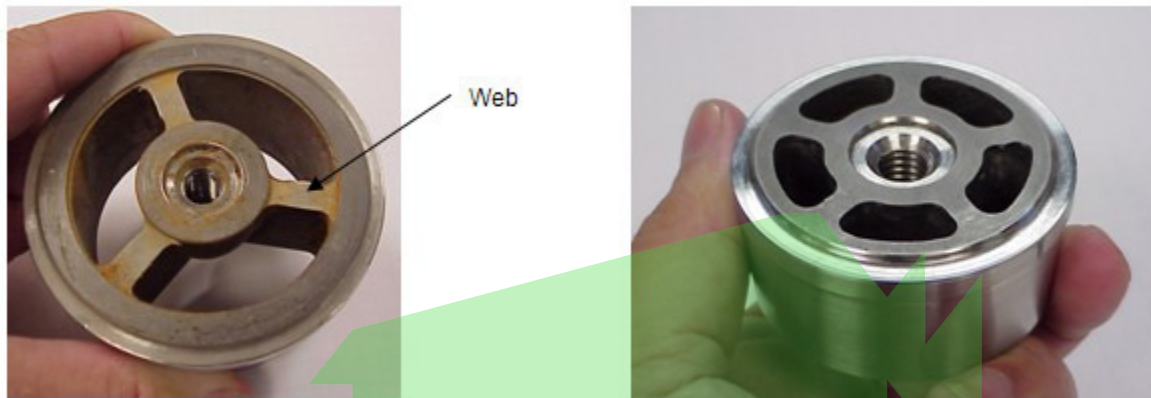

Figure 14: Three vs. Five Web Valve Seat
A significant characteristic of the disc valve is the number of webs in the seat. This feature is a factor in determining the maximum allowable discharge pressure of the valve and the methods available to remove them. The valve seat either has three (3) or five (5) webs; see Figure 14.